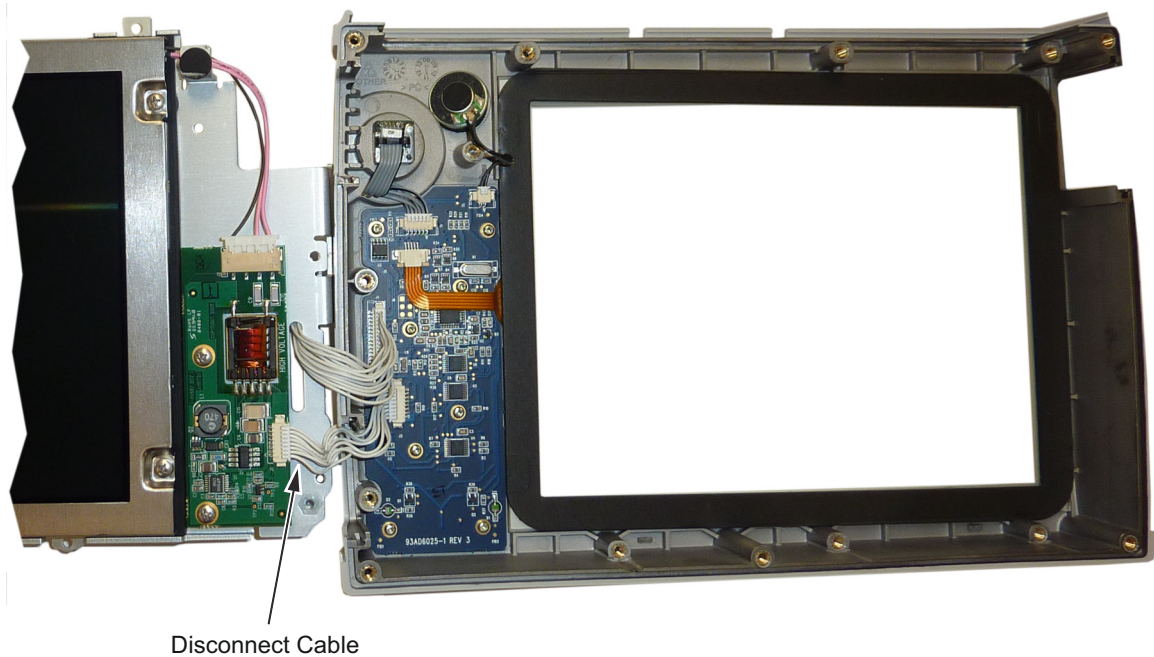

Figure 6-24. Replacing the LCD Assembly
4. Turn over the LCD assembly and disconnect the front half of the case from the LCD Assembly (Figure 6-24) by disconnecting the cable.